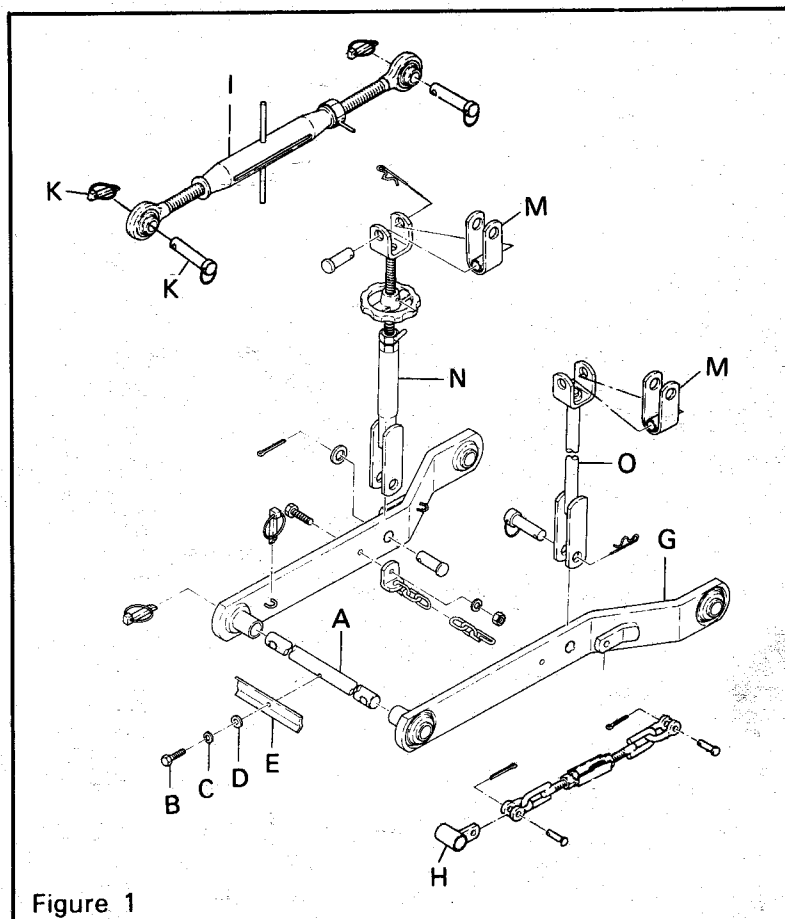

Figure 1
1. Except for Ref. letters A thru E, preassemble the three-point hitch as shown in Fig. 1.